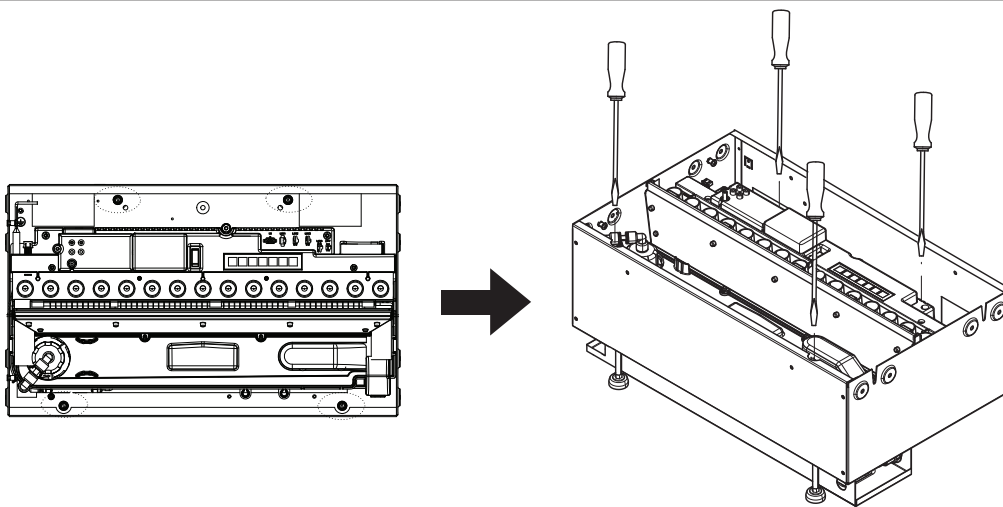
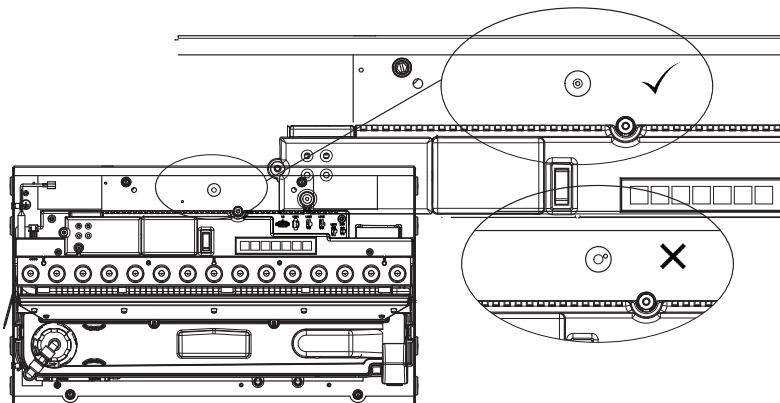

Fig.5
Fig.6
3. Ensure the second product is at the correct height to match the first product and ensure it is adequately level. This can be done by adjusting the adjustable feet with a flat head screwdriver. (Fig 5) The levelness of the product can be verified by checking the on-board level (Fig 6)